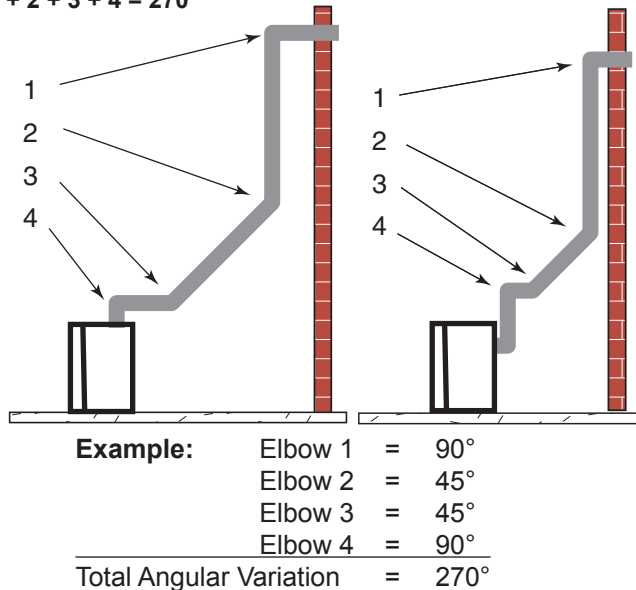

*Figure 24 -
- The maximum number of elbow degrees in a system is 270°. *Figure 24*